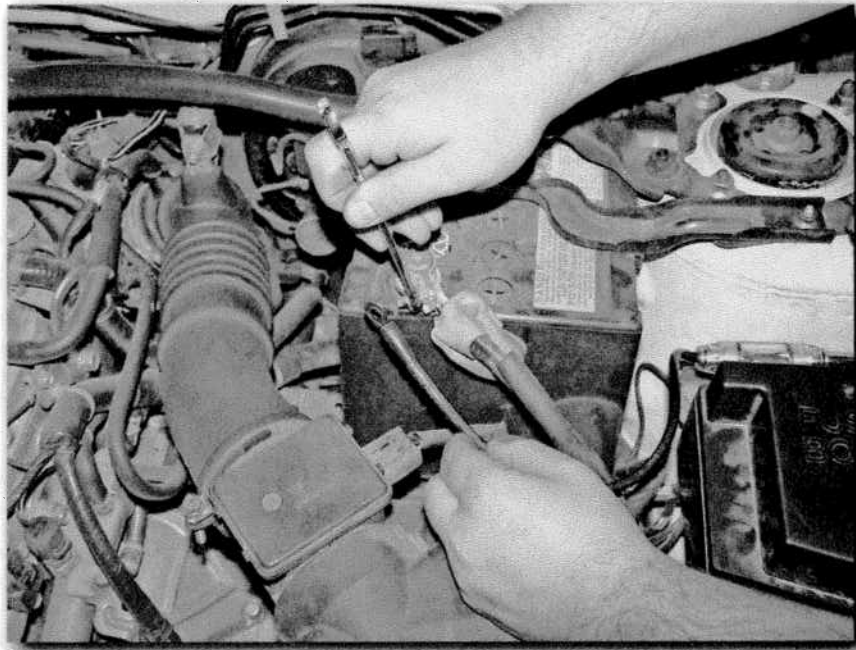

FIGURE 3-15: Disconnect the power cable from the positive terminal on the battery.
1. First: *Disconnect the battery cable from the positive terminal on the battery* (see Figure 3-15). Like I said earlier, protect the removed cable in a plastic bag.